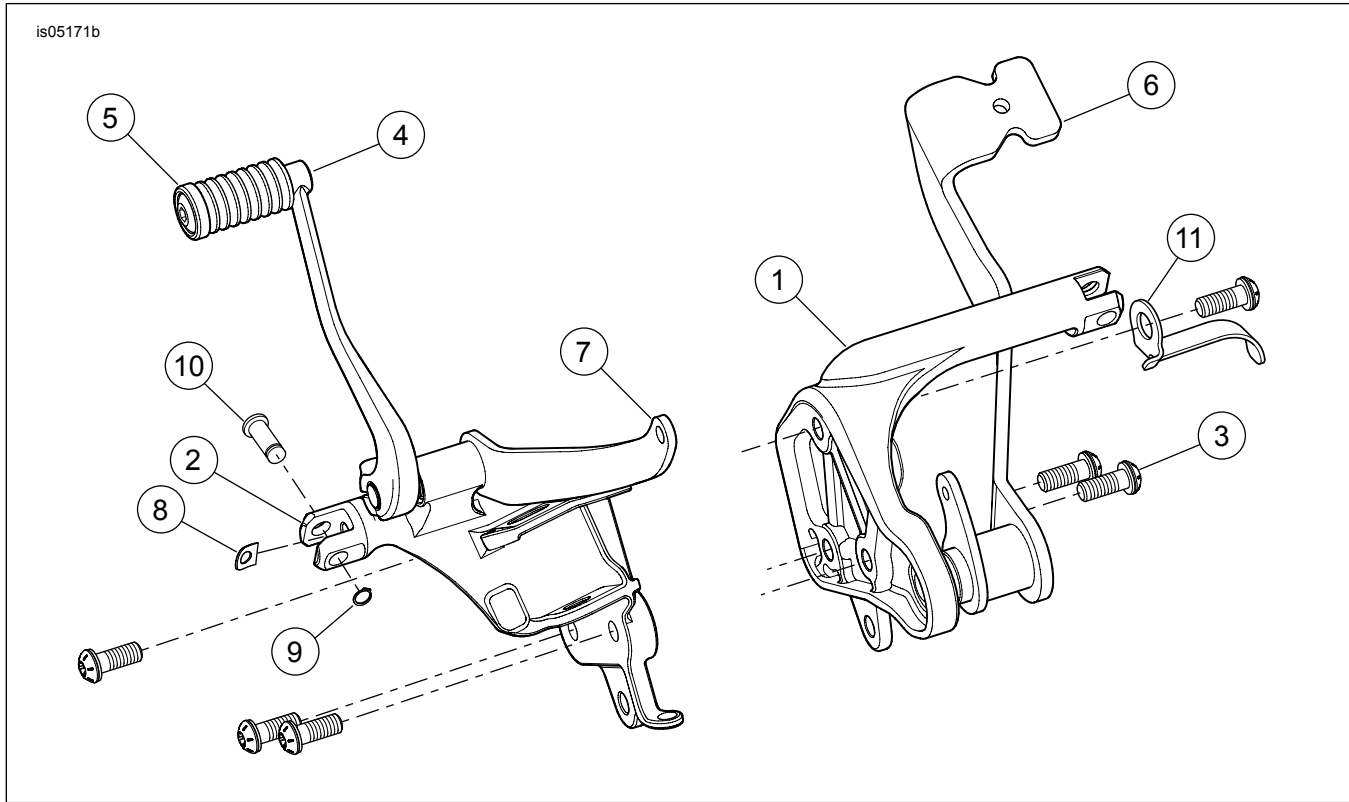

Figure 5. Service Parts: Foward Control Kit
See Figure 5 and Table 1.
4. See Figure 5. Obtain the new left side shifter bracket (2), and three TORX® screws (3) from the kit.
6. See Figure 5. Install footpeg with spring washer (8), clevis pin (10) and retaining ring (9).
11. See Figure 5. Install footpeg with spring washer (8), clevis pin (10) and retaining ring (9).